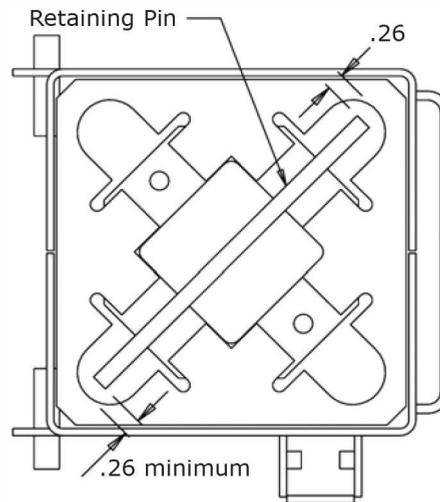

Figure 2
1. The Retaining Pin must be centered (Figure 2) in the column housing.